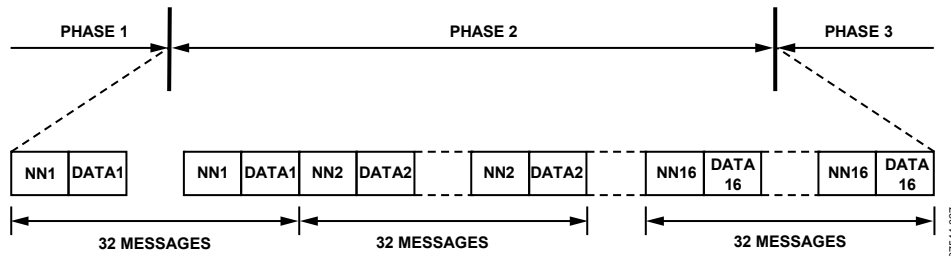

Figure 27. Mode 3 Device Data Transmission
In Phase 2 Mode 3, the 10-bit data codes, -512 (0x200) to -481 (0x21F), are used to transmit the device data. The data coding is shown in Table 34 and in Figure 27. One 4-bit nybble of the device data (encoded as one of 16 nybble codes) is transmitted in each 10-bit message. The number of the data nybble is identified by the preceding nybble number (NN) code as detailed in Table 33. This allows a total of  $(16 \times 4) = 64$  unique bits of device data to be transmitted during Phase 2. Each message is repeated